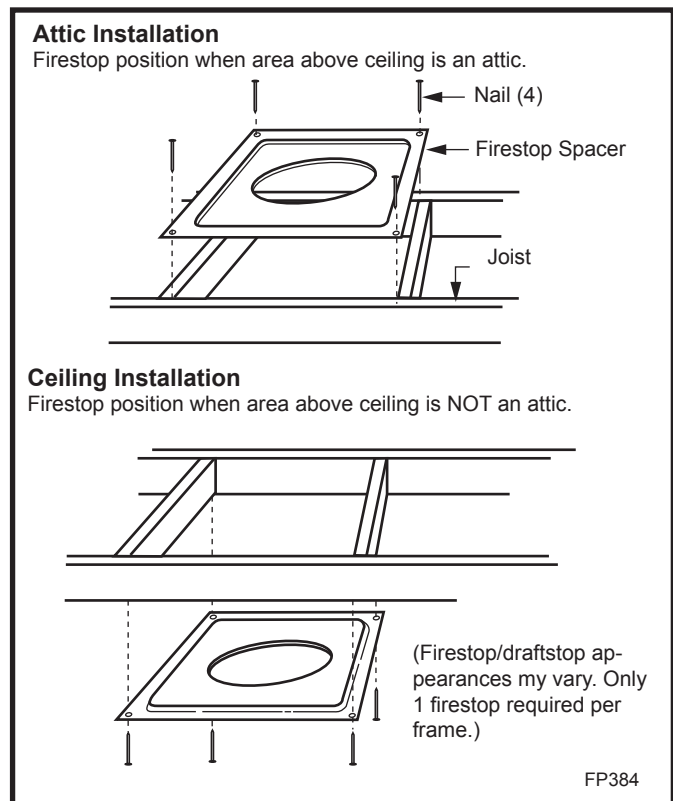

Fig. 8 Firestop/draftstop positions.
- **Minimum height with two (2) elbows — 18 feet (5 m)**
- **Elbow requirements allow a maximum of two (2) 90° elbows or four (4) 45° elbows per installation. (Two (2) 45° elbows = One (1) 90° elbow.) Refer to the venting chart for proper elbow offset runs.**
For firestop positioning, refer to Figure 8. Only one (1) firestop required per frame. **NOTE:** A firestop is not required at the roof.